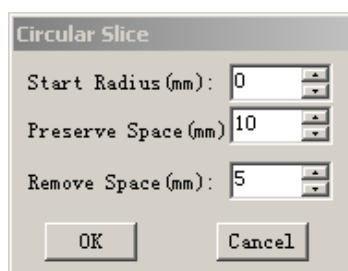

Fig. 6-25
3. A dialog is displayed (Fig. 6-25).